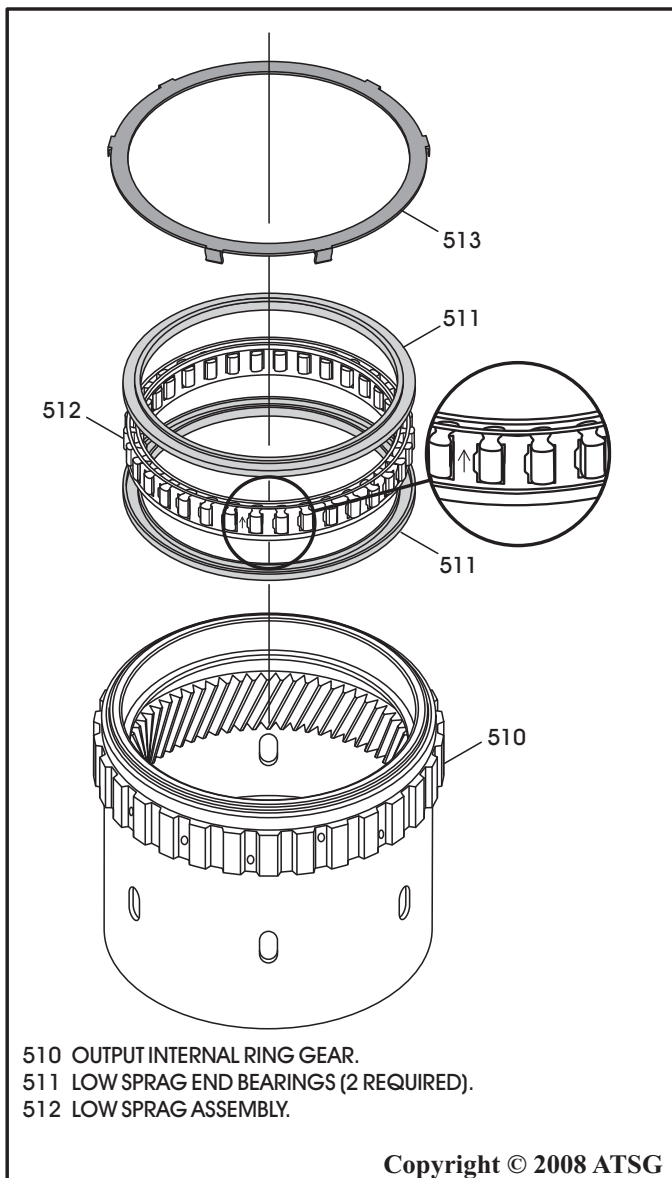

Figure 105
4. Place output internal ring gear on a flat work surface, as shown in Figure 105.
5. Install one low sprag end bearing in direction shown in Figure 105, until fully seated.
6. Install the low sprag assembly into the ring gear so that the arrow is pointing "Up", as shown in Figure 105.
7. Install the second low sprag end bearing in the direction shown in Figure 105, and ensure that it is fully seated.
8. Install the low sprag assembly retainer by snapping it over the lip on the ring gear, as shown in Figure 105.